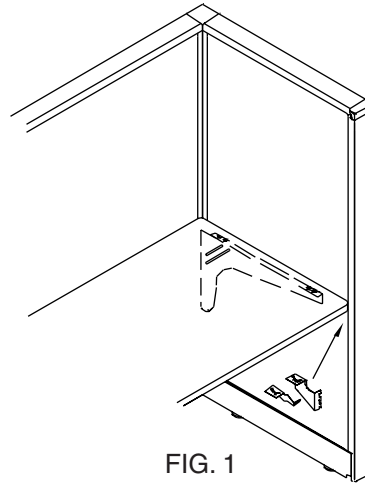

FIG. 1
3. While lifting the front edge of the worksurface slightly slide the teeth on the WSB into the trimrail slot so the top of the WSB is the same height as the bottom of the worksurface (Figure 1).